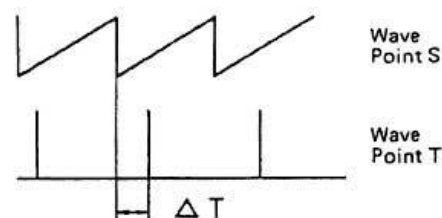

Fig. 14
2. Please refer to fig. 14 for the phase relation of the 2 waves for the adjustment of VR101 and VR102.